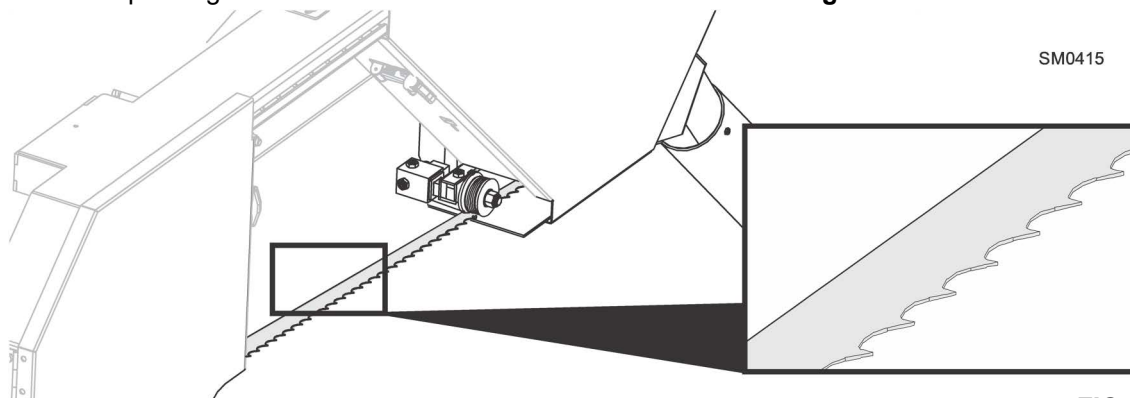

FIG. 3-6
4. Ensure the teeth are pointing the correct direction toward sawdust chute. See Fig. 3-6.